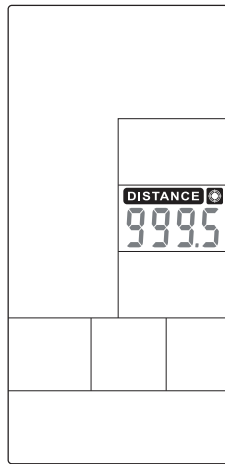

FIGURE 41
- Press UP / DOWN (KEY 10 or 11) to adjust the value (Figure 41) then press ENTER (KEY 19) to confirm.